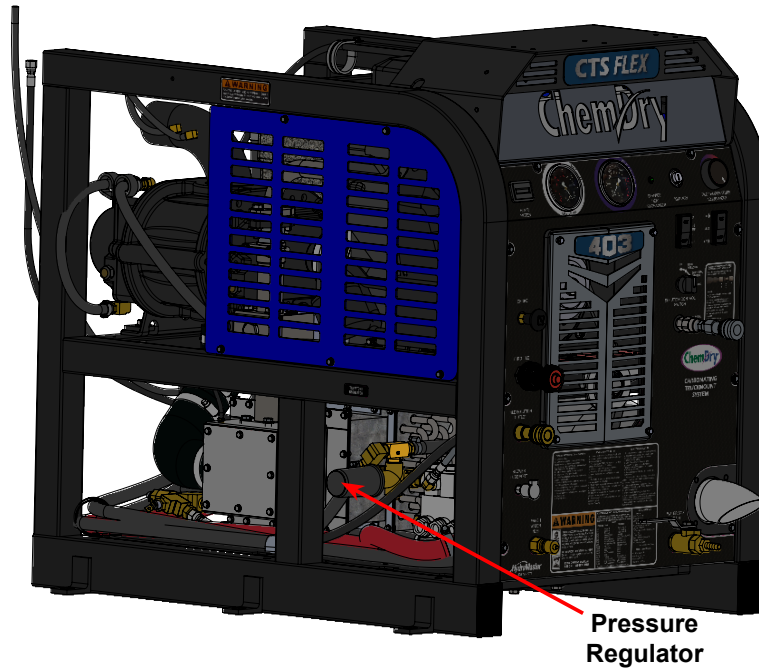

Figure 5. Side View of CTS 403 Flex Console
8. Adjust the tile regulator to the desired cleaning psi. (see Figure 5)